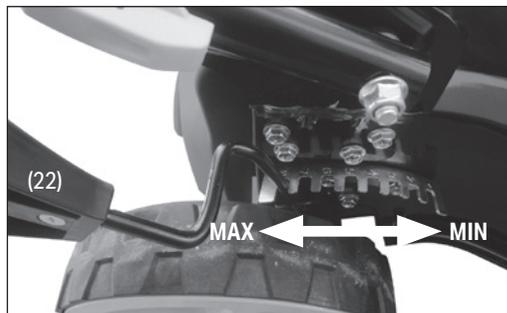

Fig. 12
7.1 Adjusting the Grass Cutting Height (Fig. 12)